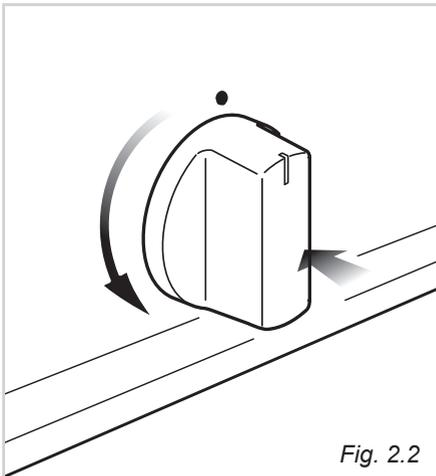

Fig. 2.2
- 1) Press in the corresponding knob and turn counter-clockwise (Fig. 2.2) to the full flame position marked by the  symbol (Fig. 2.1) and hold the knob in until the flame has been lit. In the case of a mains failure light the burner with a match or lighted taper.